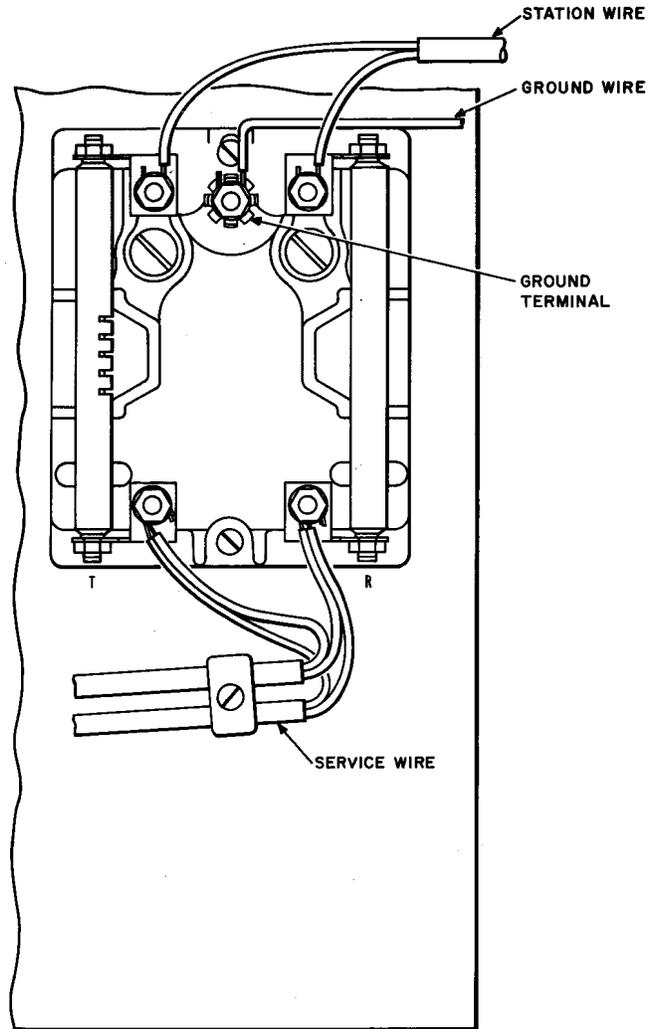

Fig. 93—Two Service Wires Bridged at Fused Protectors
11.12 A maximum of three service wires furnishing battery for a system may be terminated on one fused protector and must be bridged on the line side of the protector (Fig. 93). In the event more than three service wires are required to extend a battery feed circuit, additional protectors must be installed (Fig. 94). Use two 11C fuses, one for the tip conductors and one for the ring conductors. If it is necessary to strap the conductors at the binding posts, remove the 2A1A protector units and substitute 2A1D (dummy) protector units where fuses have been removed as shown in Fig. 94. On disconnects, replace the 2A1D protector units with 2A1A protector units and replace fuses.